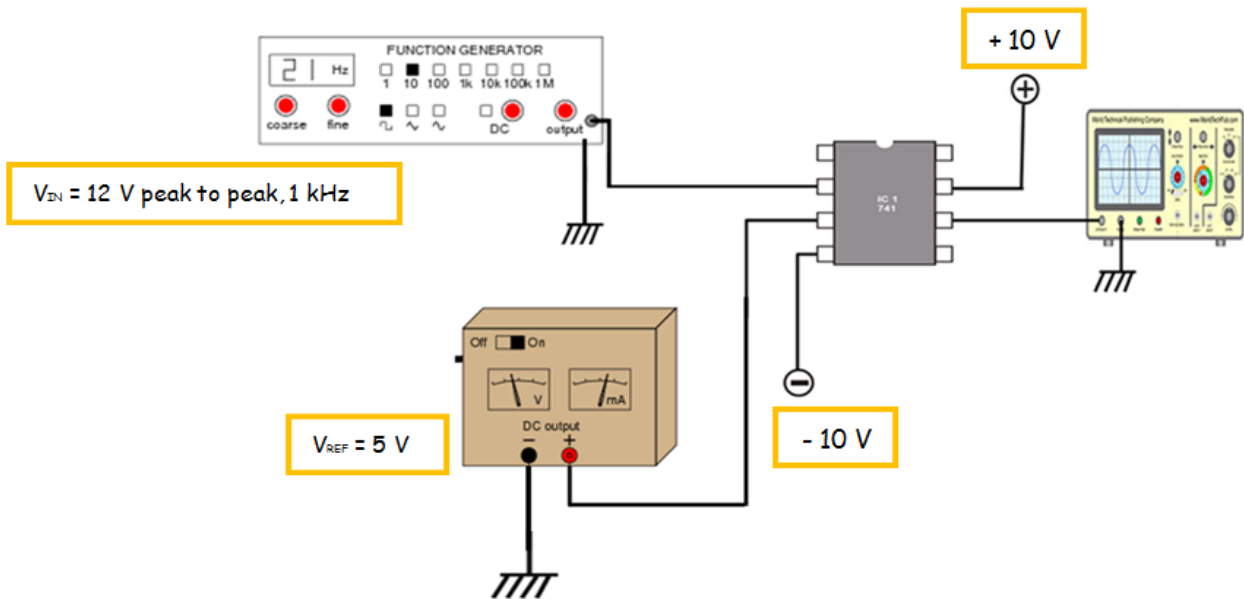

Figure 2. The sources of the inverting and non-inverting inputs were changed.
1. As shown in figure 2, the sources of the inverting and non-inverting inputs were changed and the waveforms of the output were compared with the waveforms in the part one.